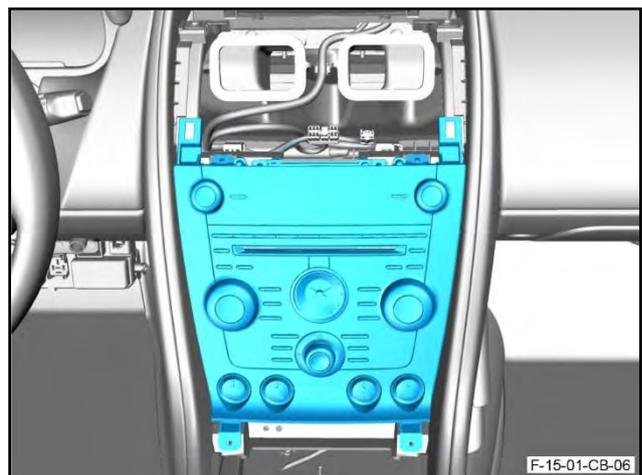

Figure 101
- 137. Put the centre stack into its installed position (refer to Figure 101).